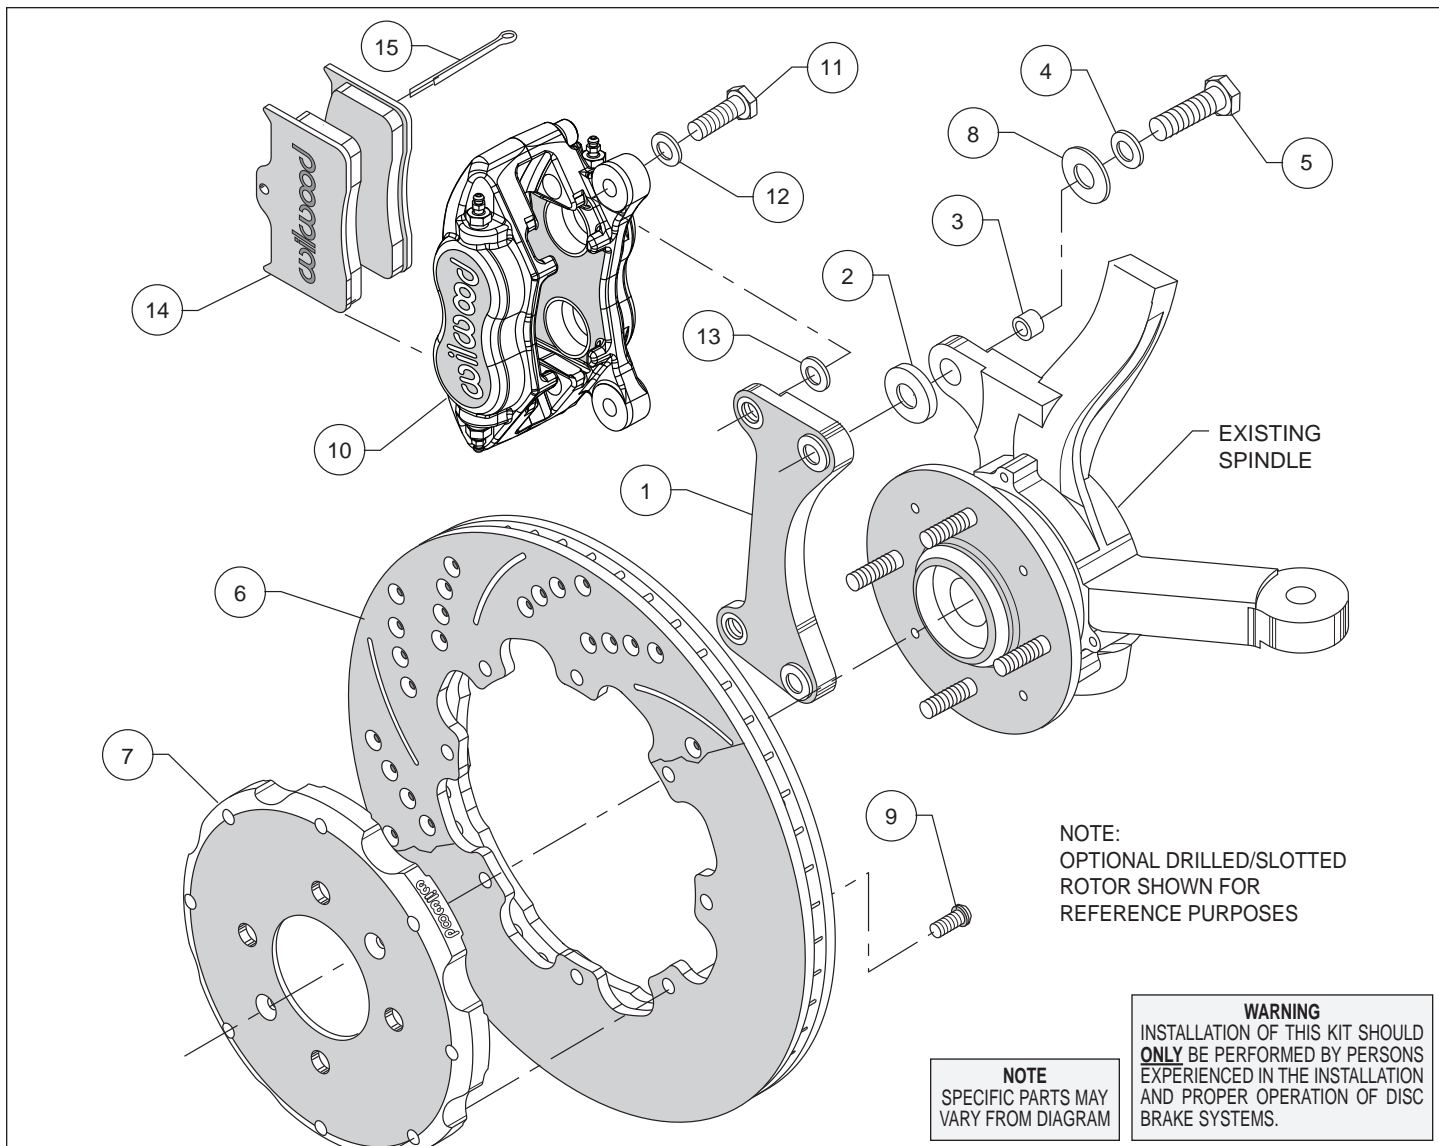
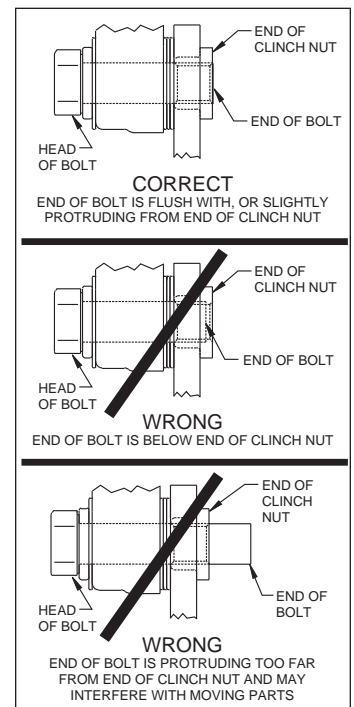

Figure 1. Typical Installation Configuration, Left Hand Application Shown
Figure 3. Clinch Nut Engagement Diagram
**Assembly Instructions** (numbers in parenthesis refer to the parts list and Figure 1 on the preceding pages): **CAUTION:** All mounting bolts must fully engage clinch nuts. Be sure to check that all bolts are either flush or protruding through flanged side of clinch nut after shimming, Figure 3.
- Insert one sleeve (3) into each hole of the spindle “ears”, Figure 1. Orient the caliper mount bracket (1) as shown in Figure 1, and install using bolts (5), washers (4) and shims (8). Position .125 thick spacer (2) between the spindle and bracket, Figure 1. Ensure that the flanged heads of the clinch nuts in the bracket are facing outboard, Figure 1. Temporarily tighten the mounting bolts. **NOTE:** The bracket must fit squarely against the mount bosses on the upright. Inspect for interference from casting irregularities, machining ridges, burrs, etc. Remove bolts one at a time, apply red *Loctite*® 271 to the threads and torque to 60 ft-lb.
- Orient the rotor (6) and the hat (7) as shown in Figure 1 and Photo 1. Attach rotor to hat using bolts (9). Using an alternating sequence, apply red *Loctite*® 271 to the threads, and torque to 25 ft-lbs.
- **NOTE:** Please reference the caution statement at the beginning of the assembly instructions. Mount the caliper (10) onto the caliper mounting bracket (1) using bolts (11) and washers (12), as shown in Figure 1. Initially place one .035" thick shim (13) on each bolt between the caliper and the bracket, Photo 2. Temporarily tighten the mounting bolts and view the rotor (6) through the top opening of the caliper. The rotor should be centered in the caliper, Photo 3. If not, adjust by adding or subtracting shims between the bracket and the caliper. Always use the same amount of shims on each of the two mounting bolts. **NOTE:** The end of each bolt must be flush with or slightly protruding from the head of the clinch nut, as shown in Figure 3. If necessary place spare shims between washer (12) and caliper mounting ear to achieve the proper clinch nut engagement. Once the caliper alignment and clinch nut engagement are correct, remove the bolts one at a time, apply red *Loctite*® 271 to bolt threads, and torque to 40 ft-lb.